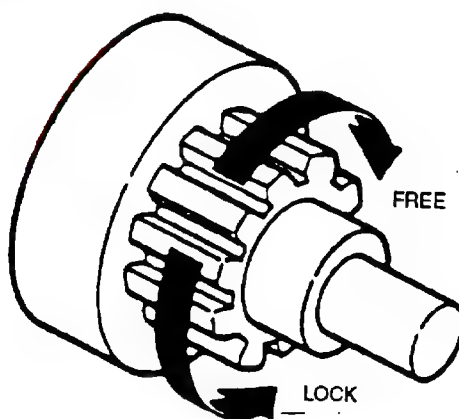

FIGURE 3-25. Overrunning Clutch
- g. When pinion gear is placed upon overrunning clutch, pinion gear should turn freely in one direction and lock when turned in opposite direction, refer to **FIGURE 3-25**